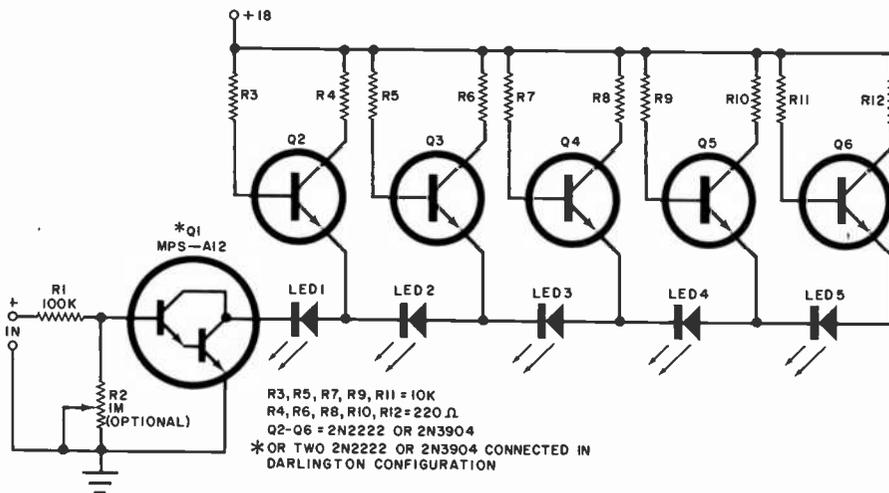

Fig. 4. Transistors can be used to switch on a series string of LED's in succession as in this circuit.
The circuit in Fig. 4 is connected to a Darlington input stage to isolate the circuit under test from the display. Potentiometer  $R2$  can be used to adjust the sensitivity of the bargraph from 0.1 to 0.5 volts (0.1-volt increments) to 1.0 to 10.0 volts (2.0-volt increments). Current through the LED's is limited by  $R4, R6, R8, R10,$  and  $R12$ .
**Transistorized Voltage-Sensitive Bargraph.** Transistors can be used to switch on a series string of LED's in succession as shown in Fig. 4. The circuit requires more components per resolution ele-